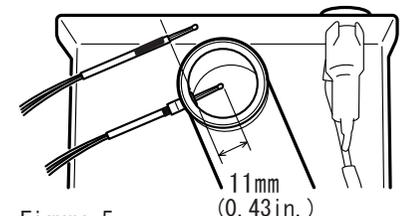

Figure 5
- ④ Install the new sensor. Insert the sensor in the correct position and squeeze the eyelet connector with the needle nose pliers. (Refer to figure 5.)
- ⑤ Reassemble in the reverse order of assembly.
- ⑥ Turn ON the power switch. Check the temperature. Set the temperature control knob to 250°C(482°F). Measure the temperature on the top of the outlet cover. The temperature should be approximately 250°C(482°F). If it is not, adjust by adjusting potentiometer VR1 on the printed wiring board as explained below.